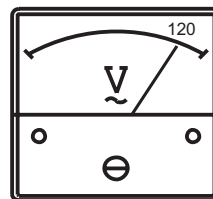

Figure 48. Voltmeter
- The generator's AC voltmeter (Figure 48) will display the generator's output in **VOLTS**.